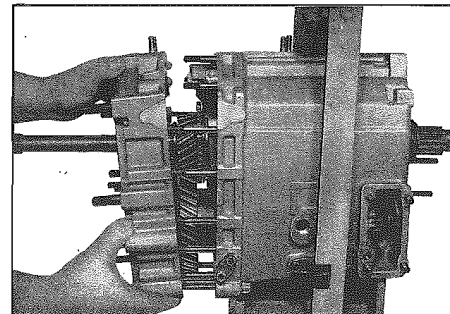

Fig. 14 - Parte anteriore della scatola
- Loosen nuts (102) on housing front end (109) and lift off housing front end (Fig. 14).